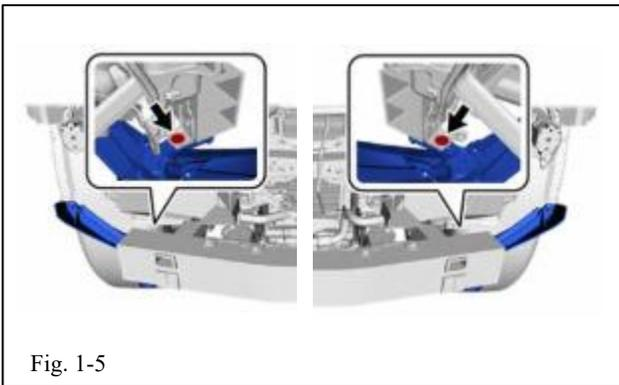

Fig. 1-5
(1) Remove bolt (Fig. 1-5).
(2) Repeat for the opposite side.